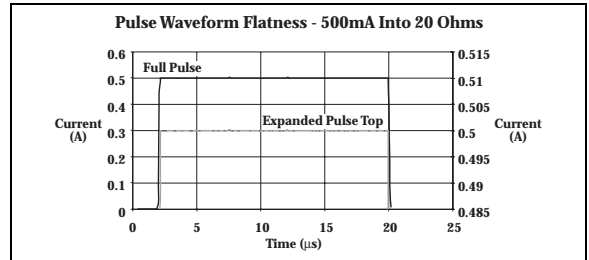

Figure 1
- ⁷ Figures 1 and 2 are typical pulse outputs into resistive loads.